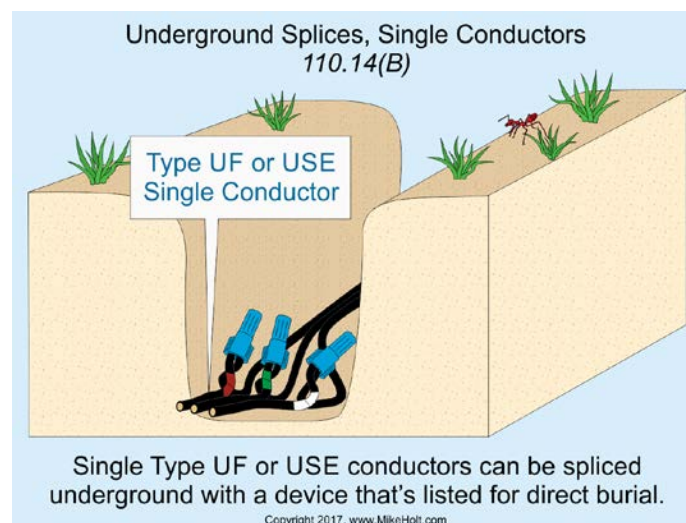

Figure 110-15
Single Conductors. Single direct burial conductors of types UF or USE can be spliced underground without a junction box, but the conductors must be spliced with a device listed for direct burial [300.5(E) and 300.15(G)]. Figure 110-15